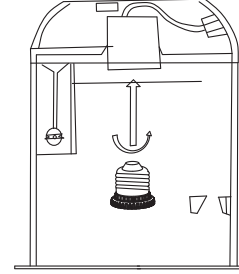

Figure 1
STEP3: Screw E26 socket adapter into socket in housing. (Figure 1)